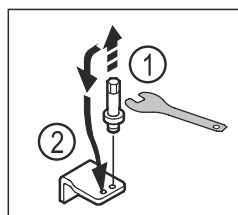

Fig. 22
- ▶ Unscrew the bolt of the lower swap bearing block with an Allen key AF5. *Fig. 22 (1)*
- ▶ Insert the bolt on the opposite side. *Fig. 22 (2)*